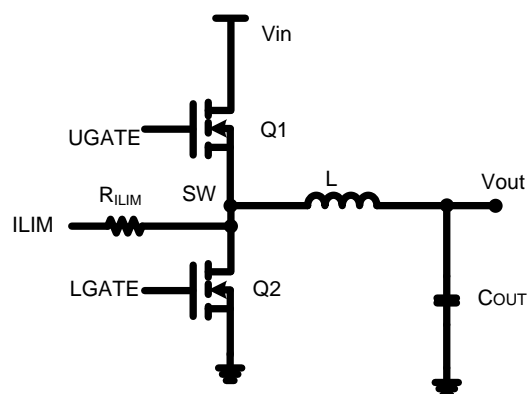
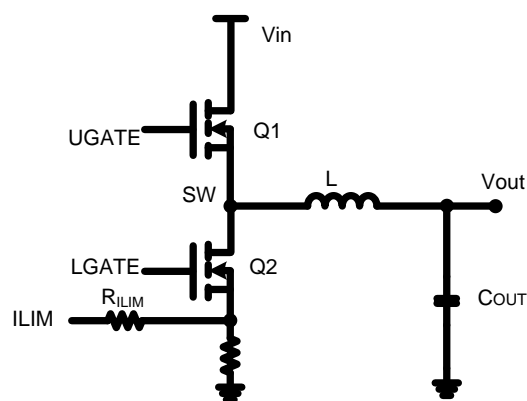

Figure 2
Figure 3
the JWH6344 supports temperature compensated MOSFET $R_{DS(ON)}$ sensing mode and shunt resistor sensing mode, and it detects the appropriate mode at start-up and sets the source current amplitude and temperature coefficient (TC) accordingly. Figure 2 portrays the $R_{DS(ON)}$ sensing mode which resistor R_{ILIM} is tied to SW to use the $R_{DS(ON)}$ of the low-side MOSFET as a sensing element (termed $R_{DS(ON)}$ mode) and Figure 3 shows the shunt resistor sensing mode which R_{ILIM} is tied to a shunt resistor connected at the source of the low-side MOSFET (termed R_{SENSE} mode).